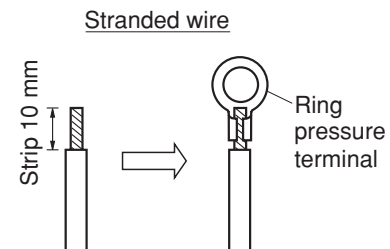
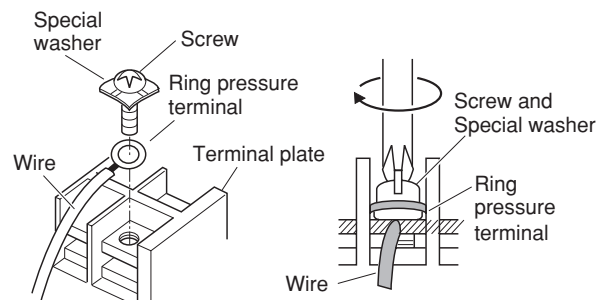

Fig. 4-5
Fig. 4-6
- (1) Cut the wire end with cutting pliers, then strip the insulation to expose the stranded wiring about 10 mm and tightly twist the wire ends. (Fig. 4-5)
- (2) Using a Phillips head screwdriver, remove the terminal screw(s) on the terminal plate.
- (3) Using a ring connector fastener or pliers, securely clamp each stripped wire end with a ring pressure terminal.
- (4) Place the ring pressure terminal, and replace and tighten the removed terminal screw using a screwdriver. (Fig. 4-6)